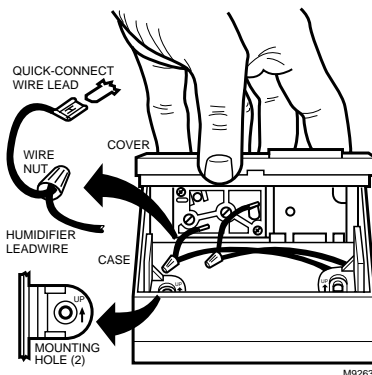

Fig. 2. Wiring connections on humidity controller.
7. Connect the wires to the humidity controller assembly using leadwires and wire nuts provided (see Wiring section and Fig. 2).
9. Snap the cover assembly into the case (Fig. 2).
- 8 Connect the wires to the humidity controller assembly using leadwires and wire nuts included (see Wiring section and Fig. 2).